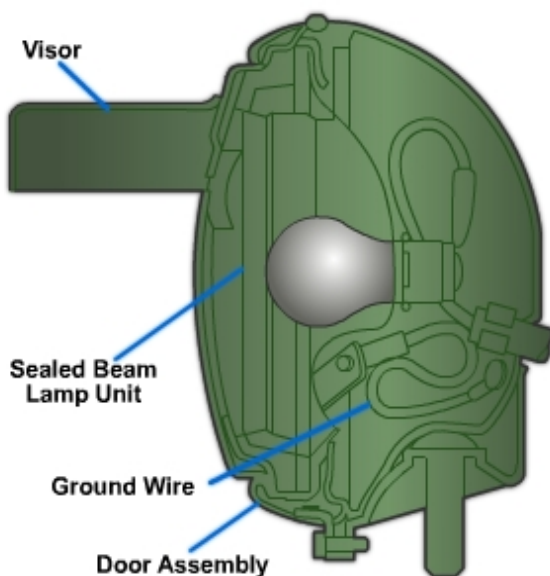

Figure 8-37 — Blackout driving light.
- The blackout driving light is designed to provide a white light of 25 to 50 candlepower at a distance of 10 feet directly in front of the light (*Figure 8-37*). The light is shielded so that the top of the low beam is directed not less than 2 degrees below the horizon. The beam distribution on a level road at 100 feet from the light is 30 feet wide.